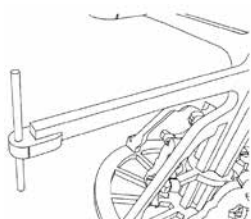

fig. 20
6) Take the drawn pith 2mm ("w" element) and divide it into 10 parts with scissors. Insert them (and glue them into position), 8 of the 10 pieces into the holes of the supports "n", previously glued to the top of the uprights (phase 4), as shown in Fig. 20 and 21 (let them protrude from both sides, then, after the sail will be positioned in a definitive manner, the excess may be cut with scissors).
7) Free the spiral "u" (set "C") and, following the shape of the frame of the screw, insert the small holes present on it gradually into the pins we created in the previous phase (6), starting from the upper arm of the upright marked with "o", then on the pins of the upright marked with "oo" and so on, until you obtain as shown in Fig. 20,21,22. After verifying that everything is fine, glue the spiral into position.